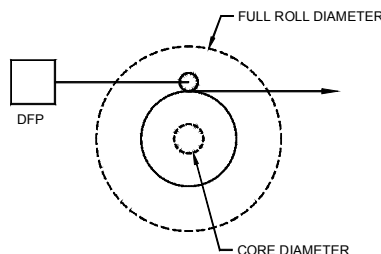

Figure 4
5.2 Sensor Setup (See Figure 4)